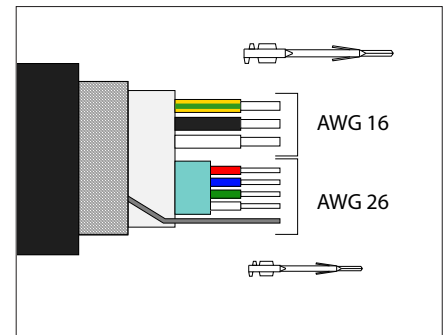

Figure 16: VP Cable
3. Strip the cable with suitable tools. The exposed copper wire should be 9-11mm (see figure 16).